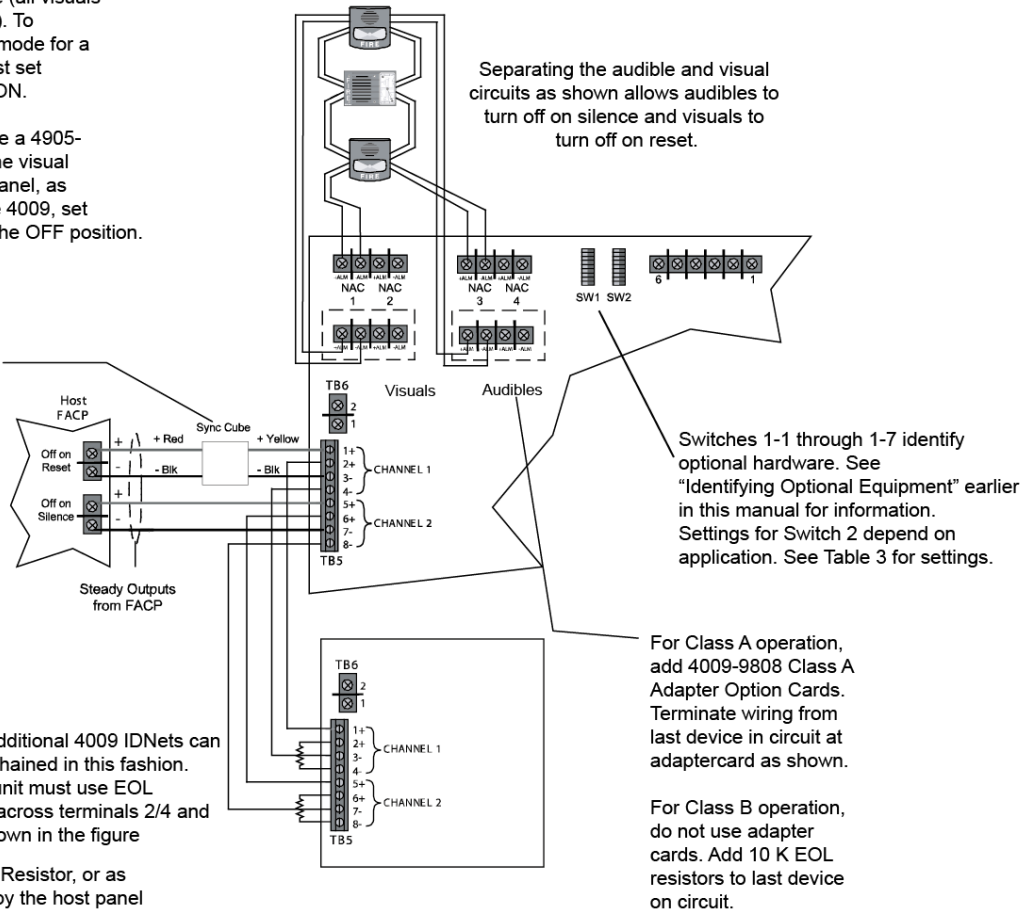

Figure 9. Class A or B NAC Operation – Dual Host Input, Wiring Example
- Wire the visual side of the A/Vs to NAC1. Wire the audible side to NAC3. See Figure 9.